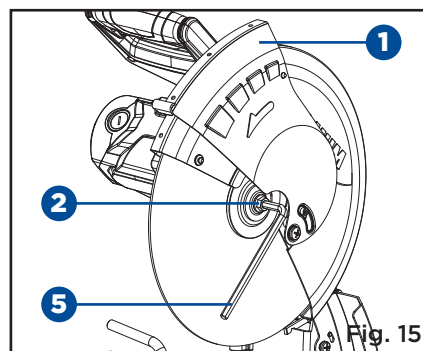

Fig. 15
- When the spindle lock button engages the arbour, loosen the arbour bolt (2) by turning it counter-clockwise using the arbour wrench (5) supplied. (Fig. 15)